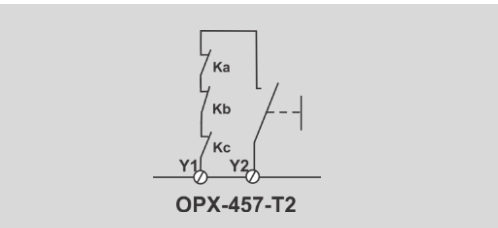
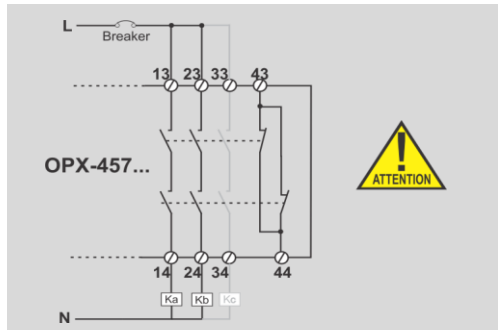

Figure 10 - Interlocking with feedback loop from the external contactors and manual reset button
Figure 13 - Connecting loads in the safety contacts
- Feedback loop for monitoring contactors, See figures 10 and 11.
When there is a need to use contactors triggered by the OPX-457 safety contacts to trigger more larger loads, it is mandatory to use safety contactors and use their NC contacts connected in series in the feedback link through the terminals Y1 and Y2, in this way the contacts of the contactors will be permanently monitored at each activation operation of the device, according to figures 10 and 11.
<p>When you need to expand the capacity of the output safety relay contacts, use safety contactors, Ka, Kb and optional Kc, in Fig 13, and connect their NC contacts to the Interlocking feedback loop connections according to FIG 10 and 11.</p>